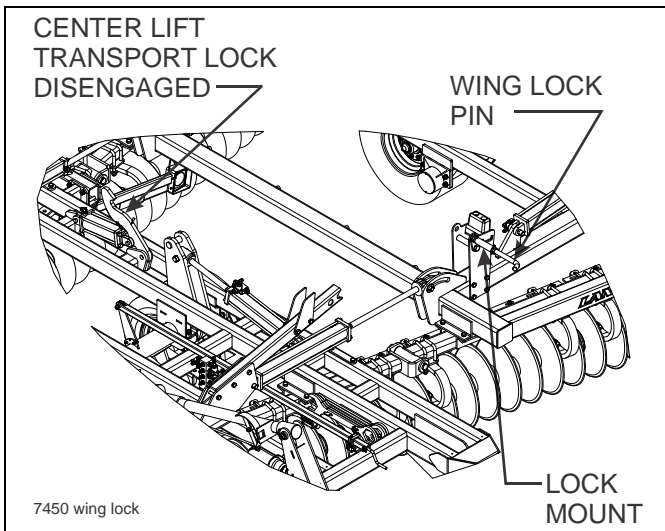

Figure 4-6: Stored Transport Locks
2. Begin folding the machine. Transport locks will engage on the center lift as the outer wings are folding, fully fold all inner and outer wings (See Figures 4-6 and 4-7).
2. Fully raise the folded machine to unhook the locks and continue to hold the lever to fully extend the wing transport wheels (See Figures 4-6 and 4-7).
2. Remove the wing lock pins by sliding forward. Unfold the wings and extend the fold cylinders completely noting that the transport locks are also disengaged (See Figure 4-6.)